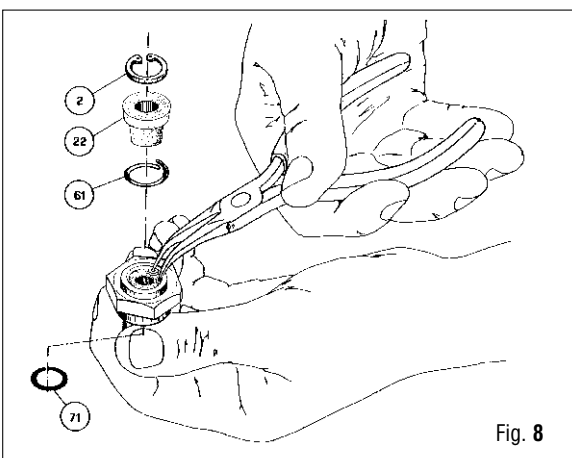

Fig. 8
14. Using a snap ring plier (B14), extract retaining ring (2) sintered filter (22) and filter spring (61) from the yoke retainer nut (Fig.8).
15. Remove the O-ring (71) from the yoke retainer nut.